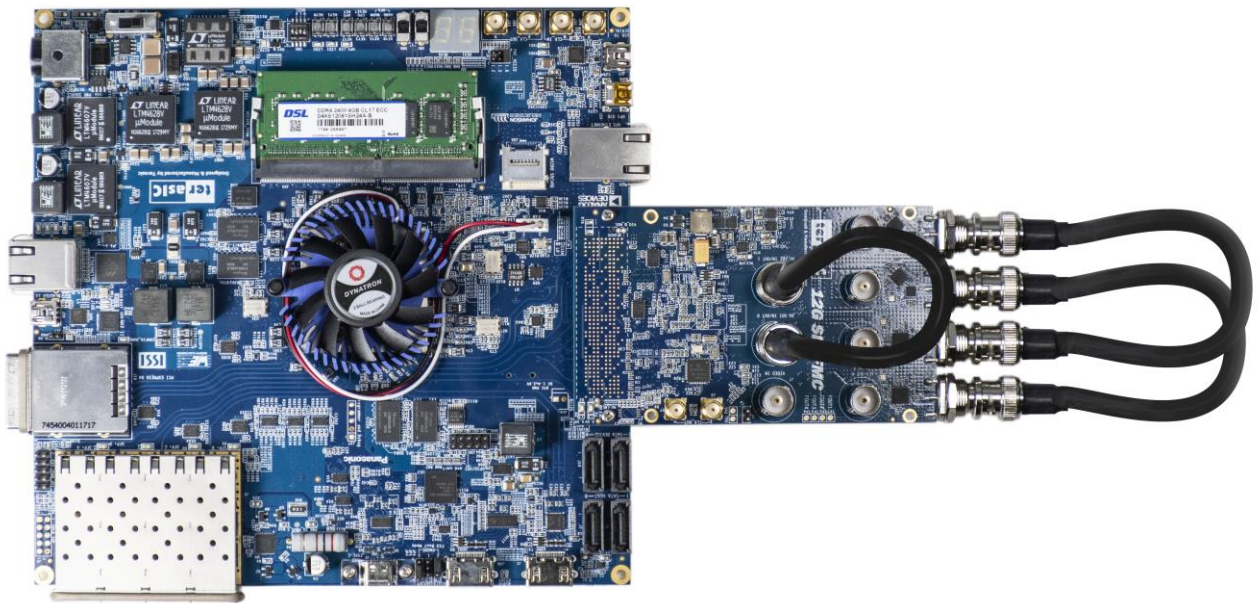

Figure 4-12 Hardware setup of SDI-FMC with HAN pilot platform
Figure 4-12 shows the setup of SDI-FMC with the HAN pilot platform. The SDI-FMC should be installed on the FMC expansion header of HAN pilot platform. Use an BNC to BNC 3G SDI Cable to connect BNC port J10 and the BNC port J13. Use an BNC to BNC 12G SDI Cable to connect the BNC port J11 and BNC port 15, and use another BNC to BNC 12G SDI Cable to connect the BNC port J14 and BNC port 8.
2. Make sure the SDI-FMC is installed on the HAN pilot platform as shown in **Figure 4-12**.